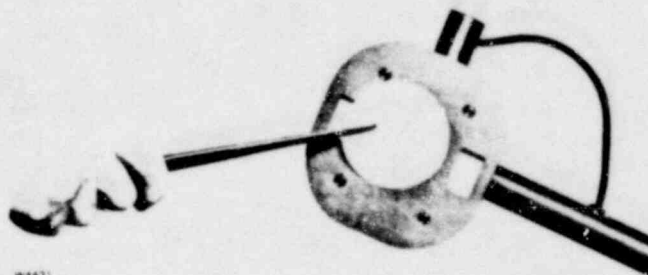

Figure 7. Wipe Test Procedure
2. Remove one of the wipe test discs from the kit and completely dampen it with tap water. Wring out any excess water. Hold the damp filter disc with a pair of forceps or tongs and wipe the outside of the radiation source (key 26, figure 8) thoroughly as shown in figure 7. Since extended exposure to the radiation source at close proximity is undesirable, this procedure should be performed as quickly and as vigorously as possible.